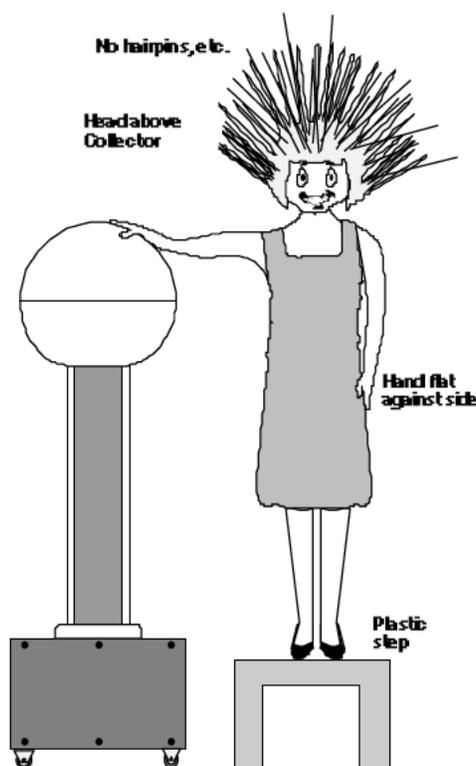

Fig. 37 - "Hair Raiser"
3. **"Hair Raiser"**: For young audiences, this is undoubtedly the most entertaining demonstration Van de Graaff Generators provide. Place a plastic (not wood or metal) step or stool 10" to 12" tall beside the generator. Choose a "victim" with medium long, loose hair...the finer and drier the hair, the better. Have the person stand on the stool, keep his/her free hand by her side, and place her other hand *flat* on the Collector (Fig. 37).